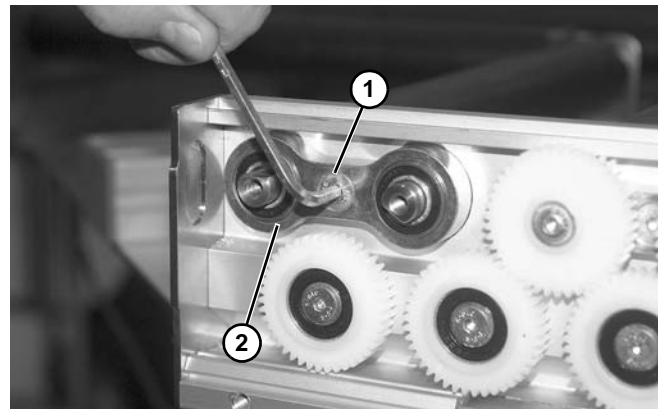

Figure 64
8. Remove flat head screw (Figure 64, item 1) from center of bearing assembly (Figure 64, item 2).